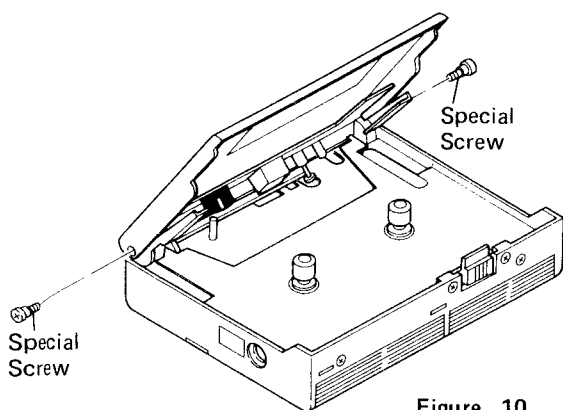

Figure 10
1. Remove two special screws from the front cabinet side of the cassette player and then remove the front. (Figure 10)